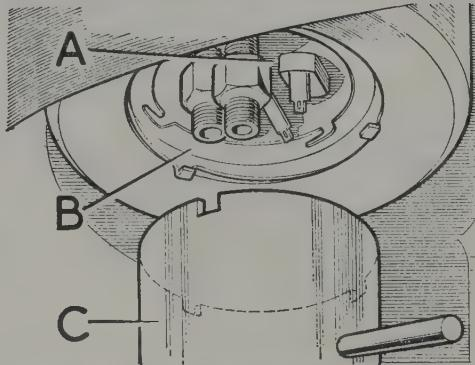

Fig. 3.10. Special tool to remove tank unit lock ring
- 4 It will be necessary to use a special spanner to release the locking ring. The ring should be turned in an anticlockwise direction to release it (Fig. 3.10).